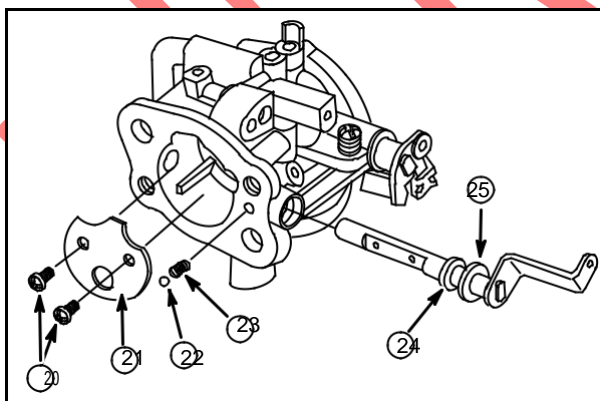

Fig. 48
Remove two screws (20), choke plate (21), shaft, seal (24) and washer (25), **Fig. 48**.